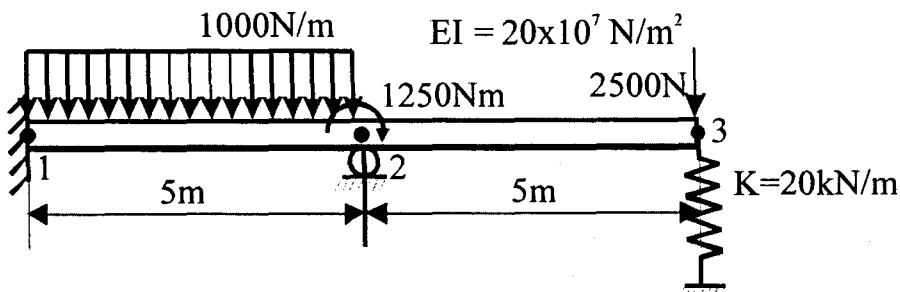

Fig. 2
- b) Compute the transverse deflection and slope at the right end (node 3) of the beam shown in Fig. 2. Choose elements as per your convenience. The right end is supported by a linear spring. No derivation is necessary.